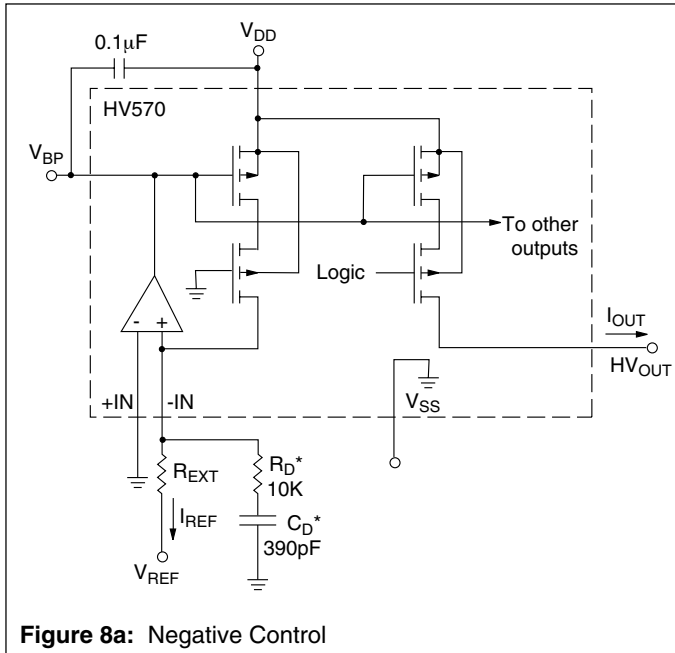

Figure 8a: Negative Control
2. A 0.1μF capacitor is needed between V_{DD} and V_{BP} (pin 40) for better output current stability and to prevent transient cross-coupling between outputs. See Fig. 8a and 8b.